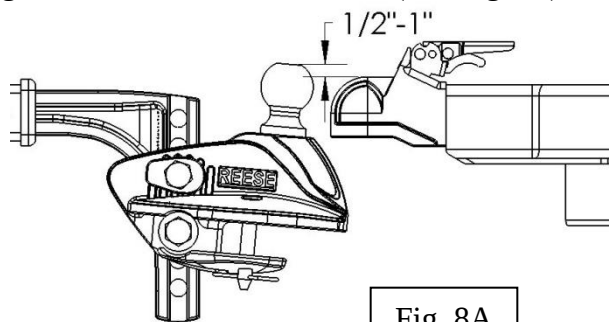
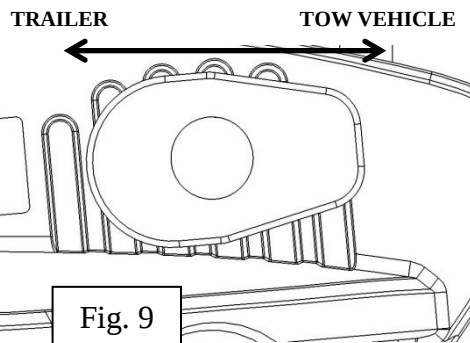

Fig. 8A
Fig. 9
13. Set the ball mount angle by aligning the toothed washer with the grooves on the ball mount as shown in Fig. 9 and Fig. 8a.